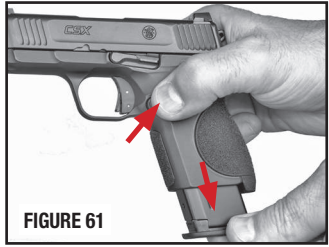

FIGURE 61
- Press the magazine release, and remove the magazine from the pistol (FIGURE 61).